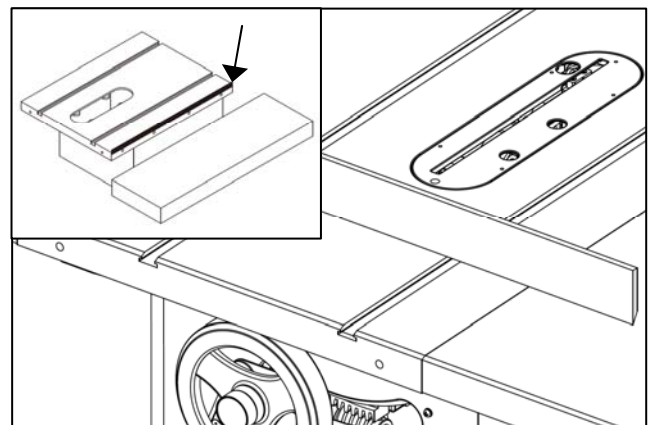

Fig. 8
5.4.3 Extension wings installation (Fig. 8)
4. Use a straightedge to check whether that the main table is coplanar with the extension wing. If not, use a strip of masking tape to shim the extension wing up or down, as directed by the arrow in Fig. 8.